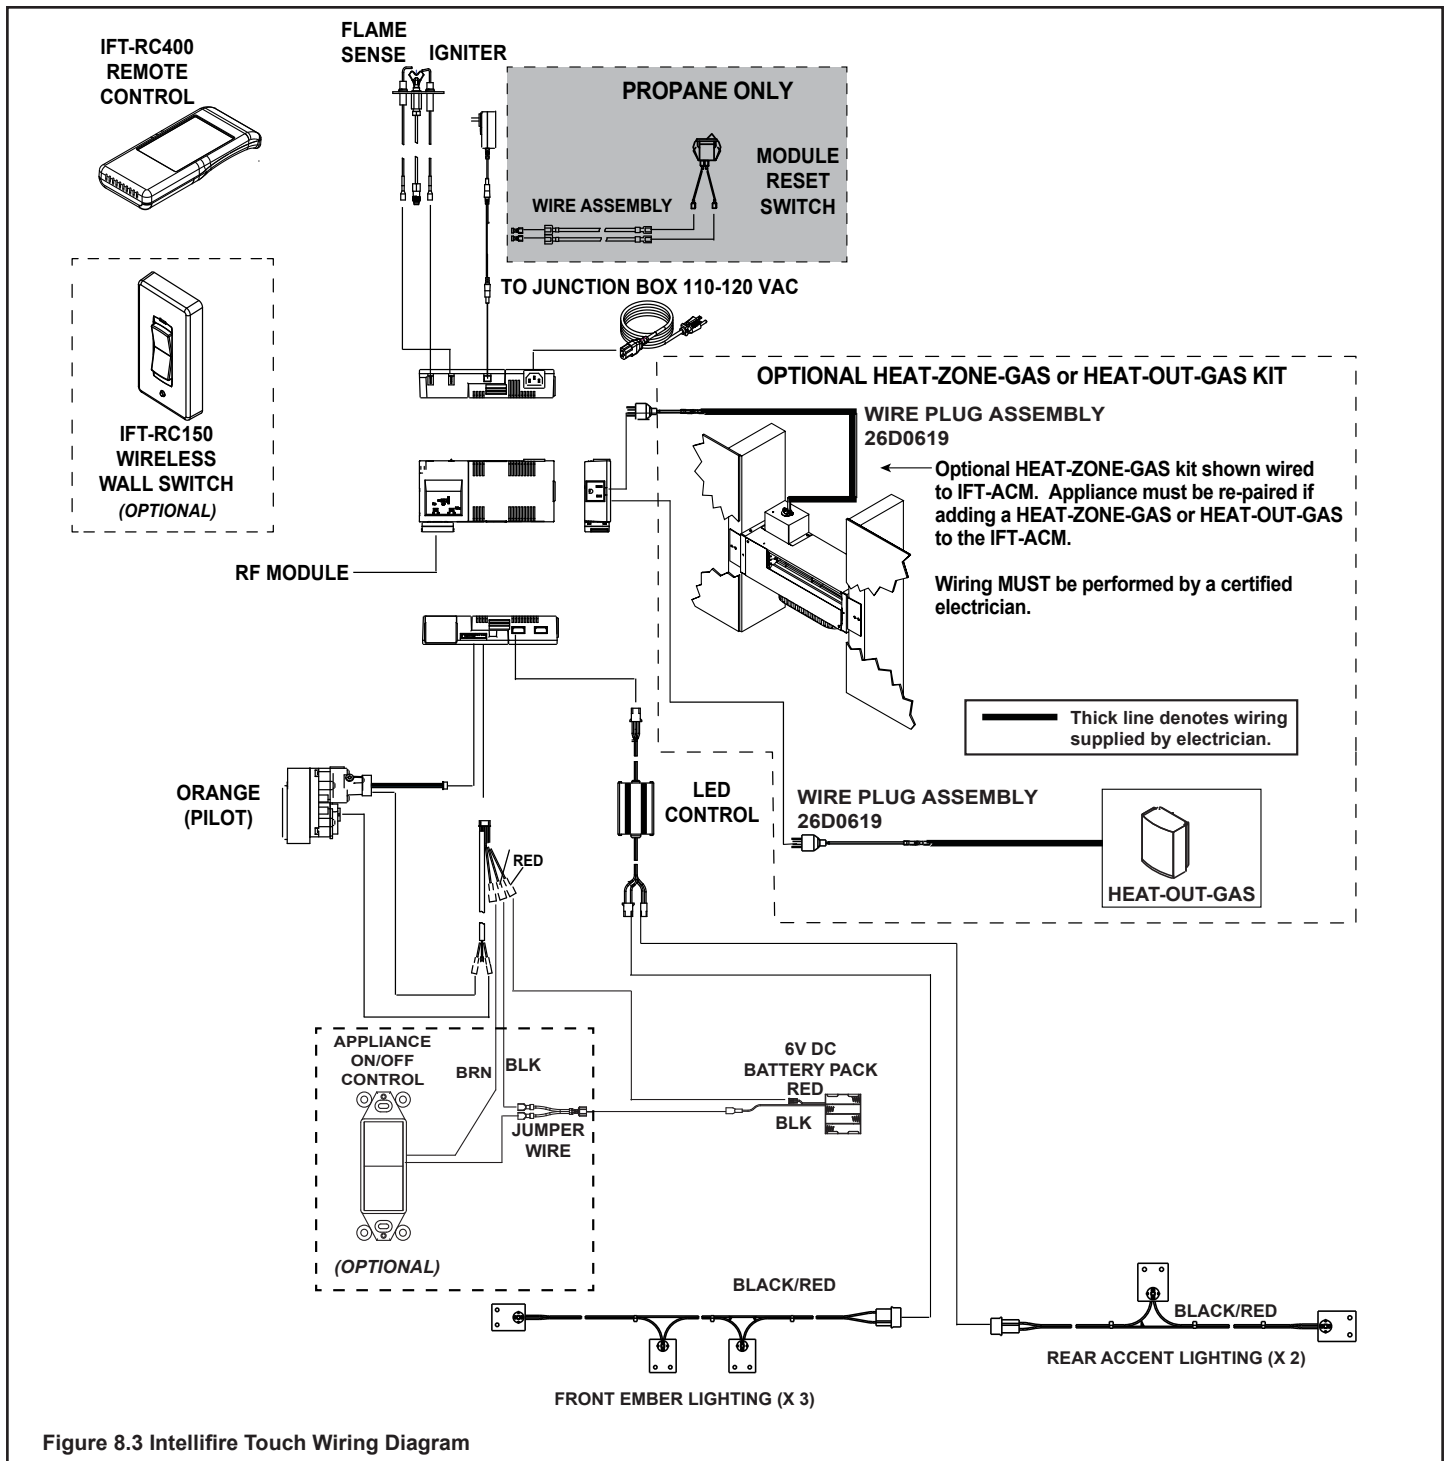

Figure 8.3 IntelliFire Touch Wiring Diagram
- Refer to Figure 8.3, IPI Wiring Diagram.